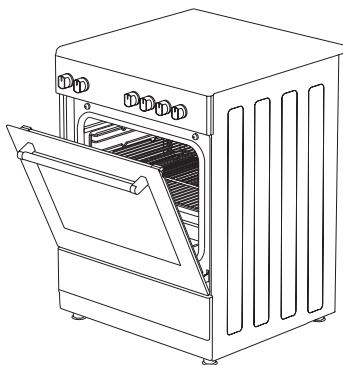

Figure 30
3. Place the safety panel under control panel by opening the oven front cover glass. (figure 30)